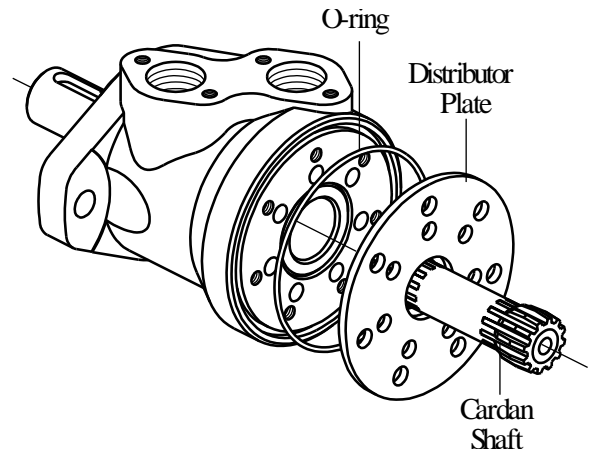

Fig.3
6. Remove cardan shaft (see Figure 3).
**For MRQ and MLHRQ(M) only:** Before mounting the screws (8 pcs.) apply 2 or 3 drops of LOCTITE 638 at top of thread of each of holes in housing.
13. Lubricate and install O-ring in housing seal groove (see Fig.3).